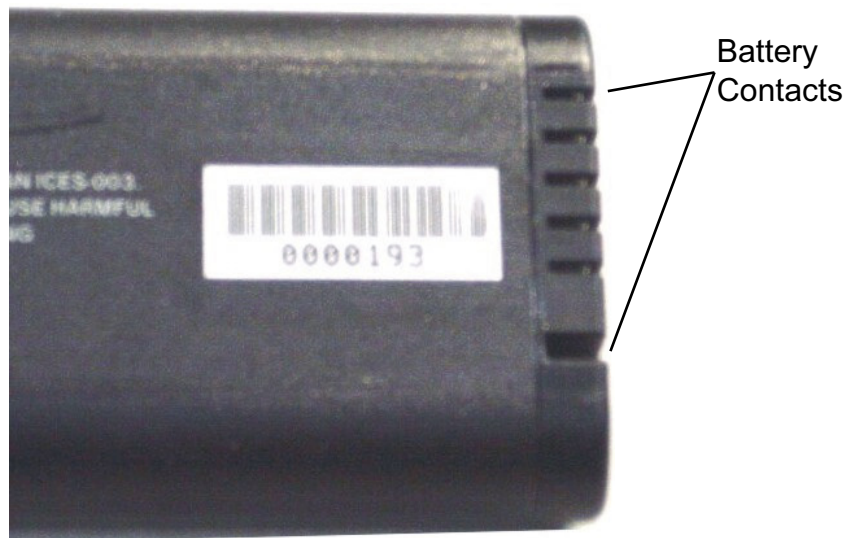

Figure 5-3. Battery Contacts
5. Replacement is the opposite of removal. Note the orientation of the battery contacts (refer to Figure 5-3 on page 5-3), and be sure to insert the new battery with the contacts facing the bottom of the instrument.